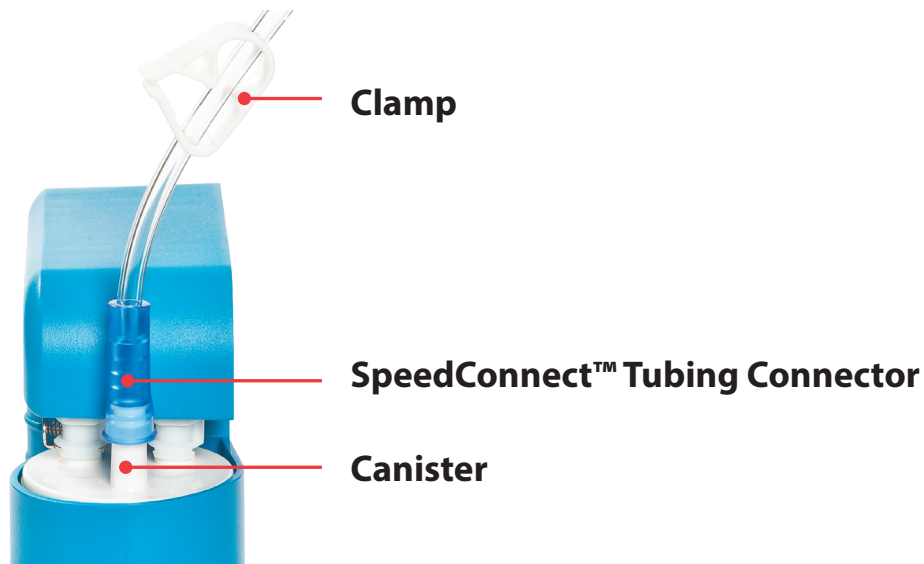

Figure 5
1. Clamp the tubing closed (**Figure 5**).
3. Remove the blue SpeedConnect™ tubing connector from the top of the canister (**Figure 5**) by twisting the tapered connector off the canister.